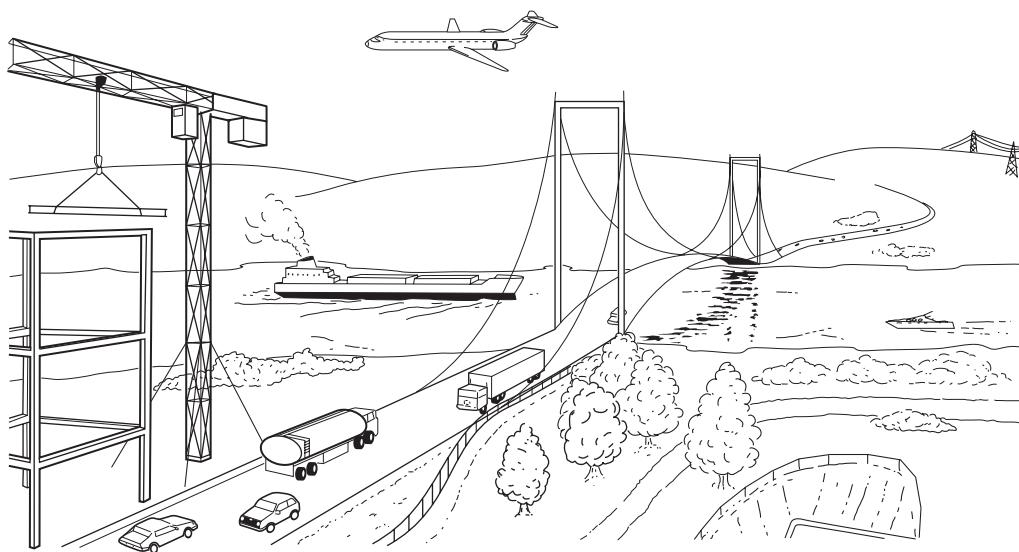

Fig. 3
- 12 Fig.3 shows a variety of both natural and man made structures.
- (a) (i) Name **one** frame structure in Fig.3.
- (ii) Name **one** man made shell structure in Fig.3.